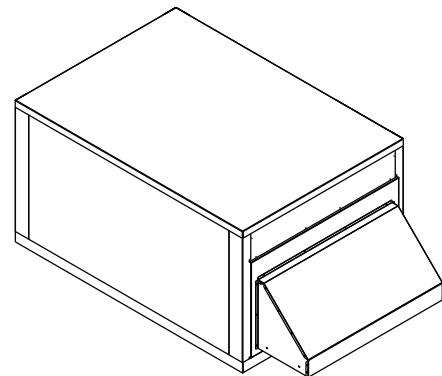

Fig. 46 — Secure Door Panel to Unit
8. Align the holes in the top and bottom of the door panel to the holes in the rooftop unit. Secure the door panel to the unit using the provided No. 10-16 x 1/2 screws as shown in Fig. 46.